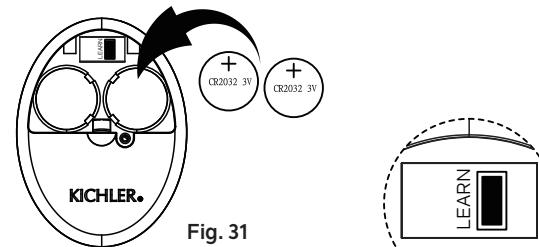

Fig. 31
Step 2. Install two 3V CR2032 batteries (included) with the + side facing up. (**Fig. 31**)